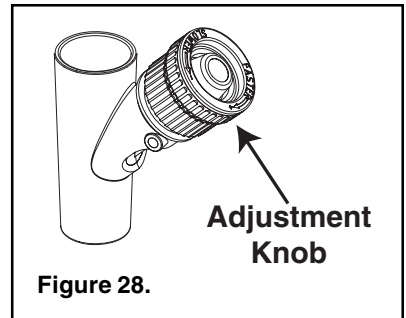

Figure 28.
2. With the pump running, turn the Adjustment Knob of the Regulator Valve “Faster” or “Slower” until the disc indicator in the Flow Gauge settles between “Maximum” and “Minimum” flow, (see Figure 28).